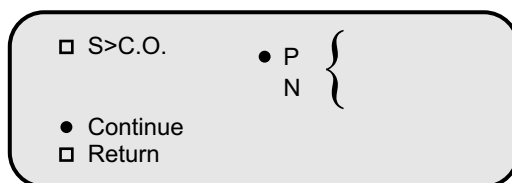

Fig. 11: Quality Judgment (1)
- If the reagent specification does not prescribe, directly press **Enter** key to go to the interface of quality judgment (Fig. 11). If you want to return to the main menu, press **Reset** key; if you want to return to the superior menu, press  $\blacktriangledown$  till the symbol in front of **Return** becomes  $\bullet$  and then press **Enter** key.